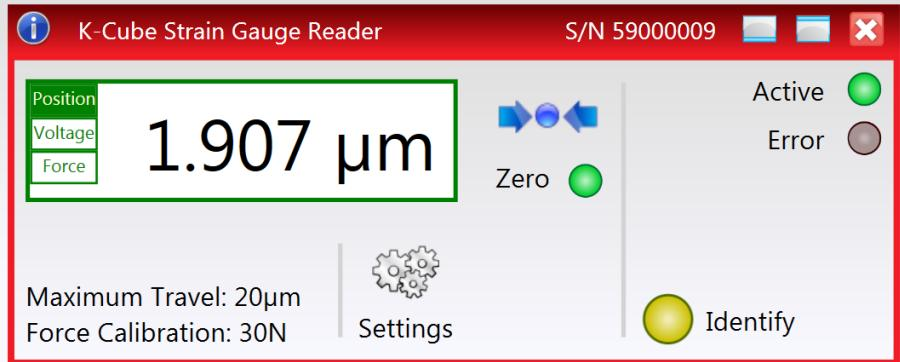

Fig. 4.2 Strain Gauge Reader Software GUI
- 2) The GUI panel for the Strain Gauge Reader K-Cube is displayed - see Fig. 4.2.